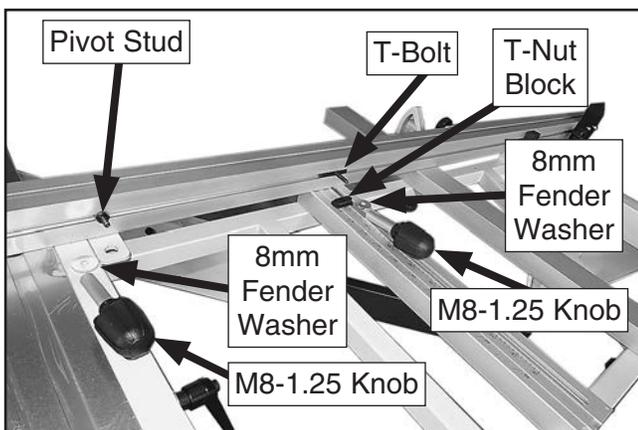
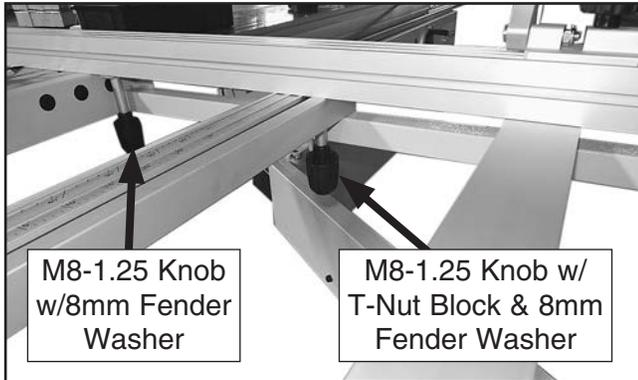

Figure 47. Back end crosscut T-slot components.
Figure 49. Crosscut fence secured.
- c) Align the M8-1.25 x 60 T-bolt with the placement position shown in **Figure 47**.
- d) Align (1) M8-1.25 T-nut with the pivot stud placement position, then hand-tighten the M8-1.25 x 10 pivot stud with the 8mm fiber flat washer into the T-nut, as shown in **Figure 47**.
53. Turn the crosscut fence over, insert the pivot stud in its placement hole (see **Figure 47**), then slide the fence up to the main saw blade so that polyurethane end block is against the blade.
56. Slide the crosscut fence against the 90° stop bolt, then secure it in place by tightening the M8-1.25 knob with the T-Nut block and 8mm fender washer on the T-bolt (see **Figure 47** on **Page 33** and **Figure 49** below). Tighten M8-1.25 knob with 8mm fender washer onto pivot stud.